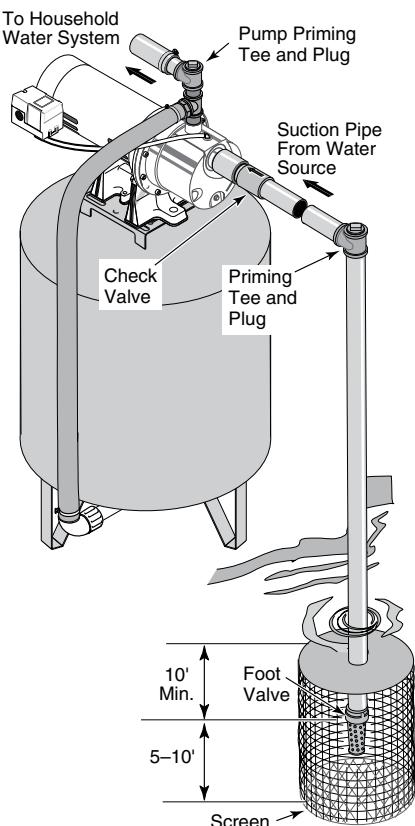

Figure 3: Surface Water Installation
Installation for Surface Water (Figure 3)
2. Assemble a foot valve and suction pipe (see Figure 3). Make sure that the foot valve works freely. Use PTFE pipe thread sealant tape or a PTFE-based pipe joint compound on threaded pipe joints. Protect the foot valve assembly from fish, trash, etc., by installing a screen around it (see Figure 3).
4. Install a priming tee, priming plug, and suction pipe to the pump (see Figure 3). Support the pipe so that there are no dips or sags in the pipe, so it doesn't strain the pump body, and so that it slopes slightly upward from the well to the pump (high spots can cause air pockets which can air lock the pump). Seal the suction pipe joints with PTFE pipe thread sealant tape or a PTFE-based pipe joint compound. Joints must be air- and water-tight. If the suction pipe can suck air, the pump cannot pull water from the water source.